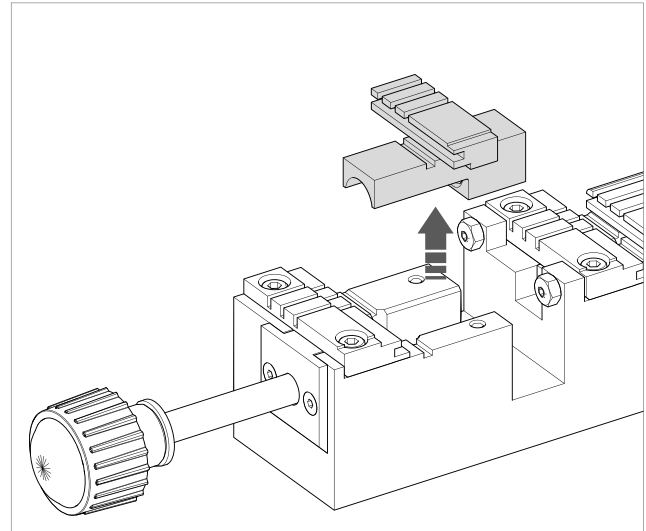

Fig. 65
- 3) Remove the mobile jaw and clean the clamp (Fig. 65).